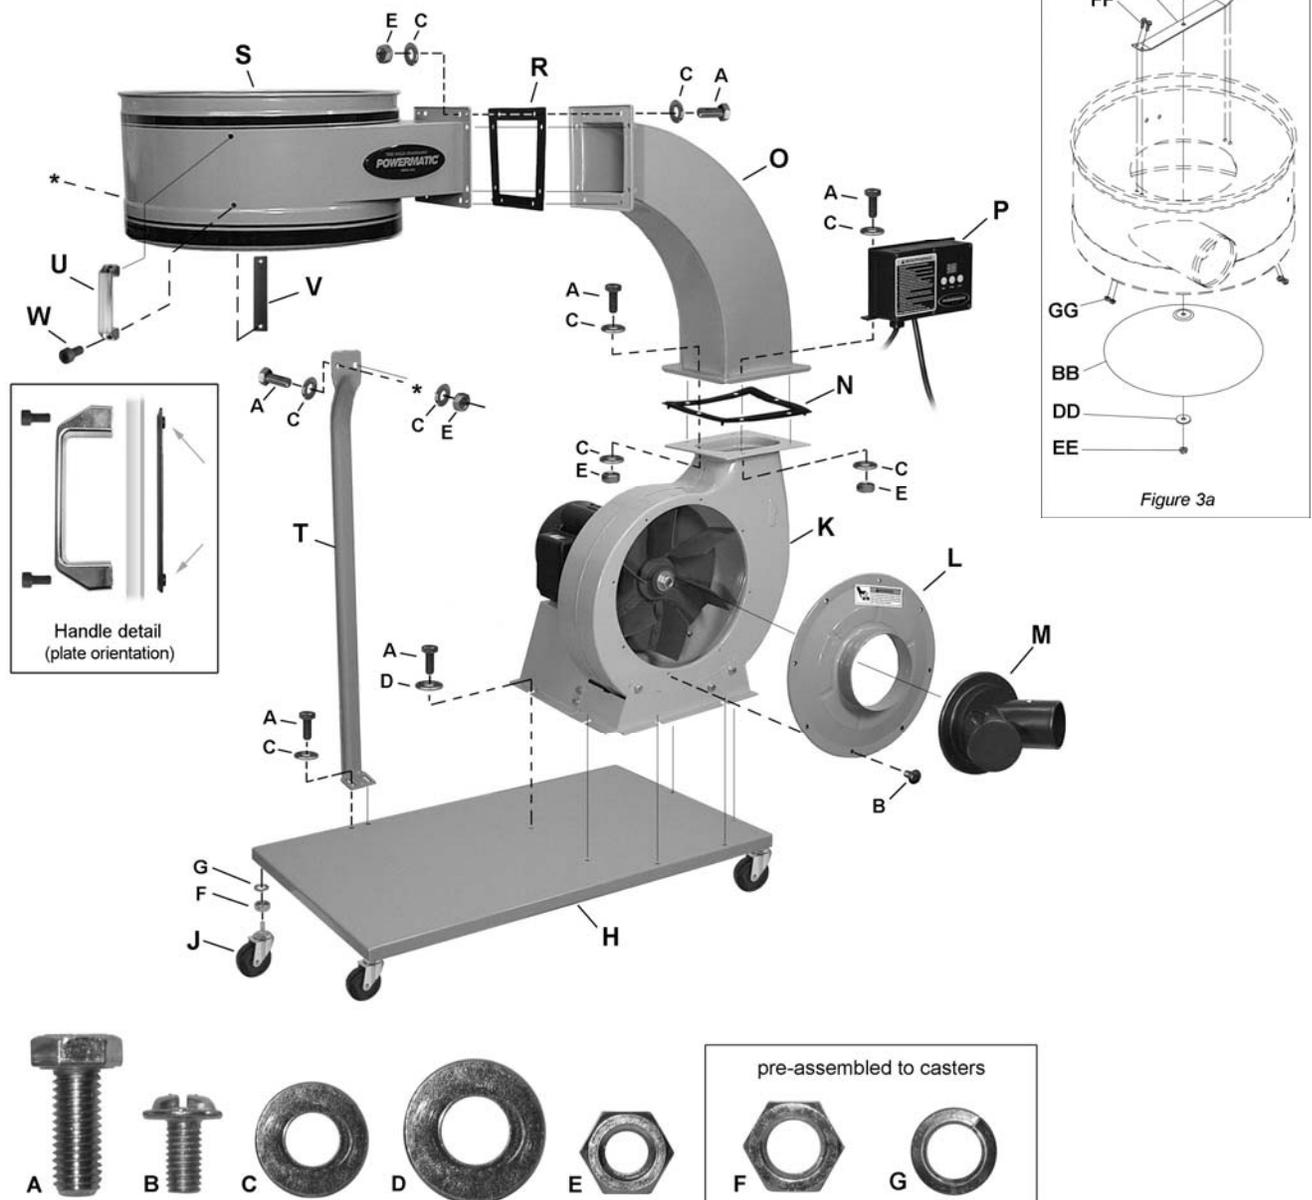

Figure 3: Assembly and hardware identification
Refer to Figure 3 to identify items H–W.
All instructions on this page refer to Figure 3.
1. Place the lower gasket (N) on the fan housing (K). Line up the rubber pegs on the gasket (face down) with the holes in the housing.
2. Place the connector tube (O) on the fan housing (K), making sure that the holes of the mating flanges are aligned.
**Note:** Refer to Figure 3 to make sure that the connector tube is facing the proper direction.
3. Insert an M8x20 hex cap screw (A), through the M8 washer (C) and flanges of the connector tube (O) and fan housing (K).
4. Place another washer (C) and a hex nut (E) on the protruding end of the screw (A) and hand-tighten only.
5. Mount the control box (P) to the two holes at the front of the connector tube flange.
1. Remove the *plate* (V) from the *handle* (U) by loosening the two *socket head cap screws* (W) with a 6mm hex wrench.
2. Install *handle* (U) to the holes in the *collector housing* (S) by inserting the socket head cap screws through the handle, the collector housing, and into the plate on the opposite side. Tighten the screws.
**Note:** Make sure the *plate* (V) is oriented properly, as shown in the Detail in Figure 3: The protrusions on the plate should face away from the handle.